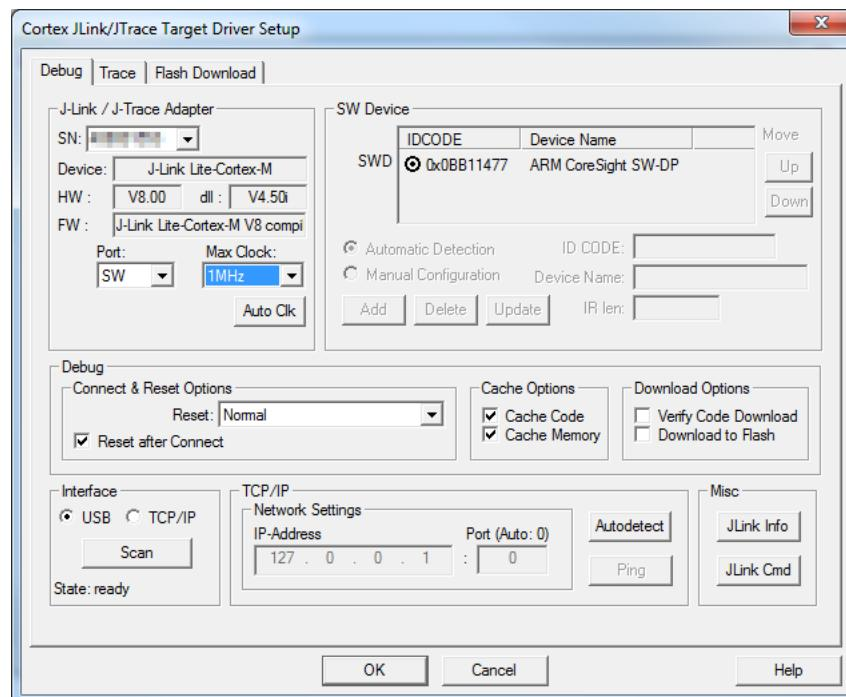

Figure 26 Target driver setup
8. In **Max Clock** the maximum speed for the debugging port cannot be exceeded (1 MHz). A proper configuration is shown in *Figure 26*.